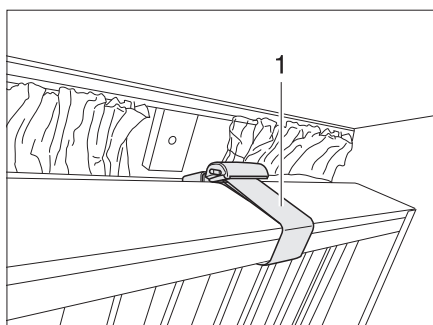

Fig. 65 Bunk bed, folding
- ▶ When the bunk bed is folded up, secure it with the retaining belt (Bild 65,1). There is a risk of injury!
The bunk beds can be folded up and secured with the retaining belt (Bild 65,1). The space under the bed can be used for storage.